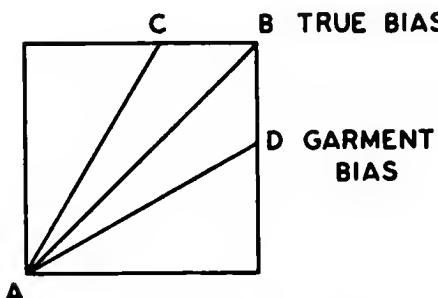

Fig. 1. True bias and garment bias.
**True** — The exact 45-deg. diagonal of the material. At this point the fabric has the most "give" (Fig. 1, A-B).
**Garment** — Any diagonal direction of fabric (Fig. 1, A-C and A-D).